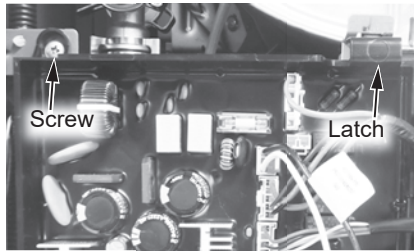

Figure 111 - Control board location
- 6 Locate the screw securing the control board panel as shown in Figure 111. Use a Phillips screwdriver to remove the screw and place it aside in a safe place for reinstallation.